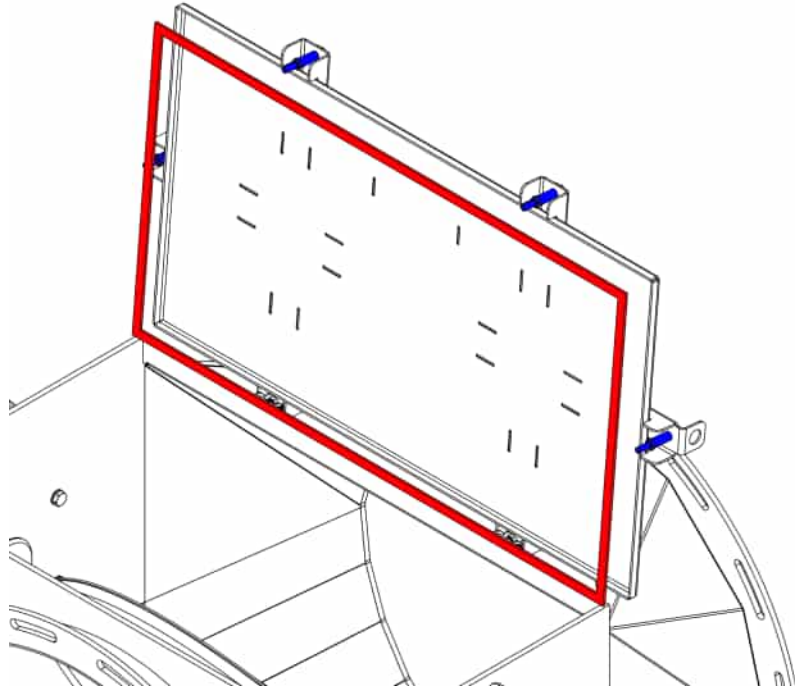

Fig. 23: Replacing the housing cover seal
6. ➤ Check the freedom of movement of the flap plate. It must be possible to turn and move the flap plate without any noticeable resistance. If necessary, the bearings need to be loosened and adjusted to enable this. Fine adjustment can be carried out with the threaded pins (coloured green in figure 23).